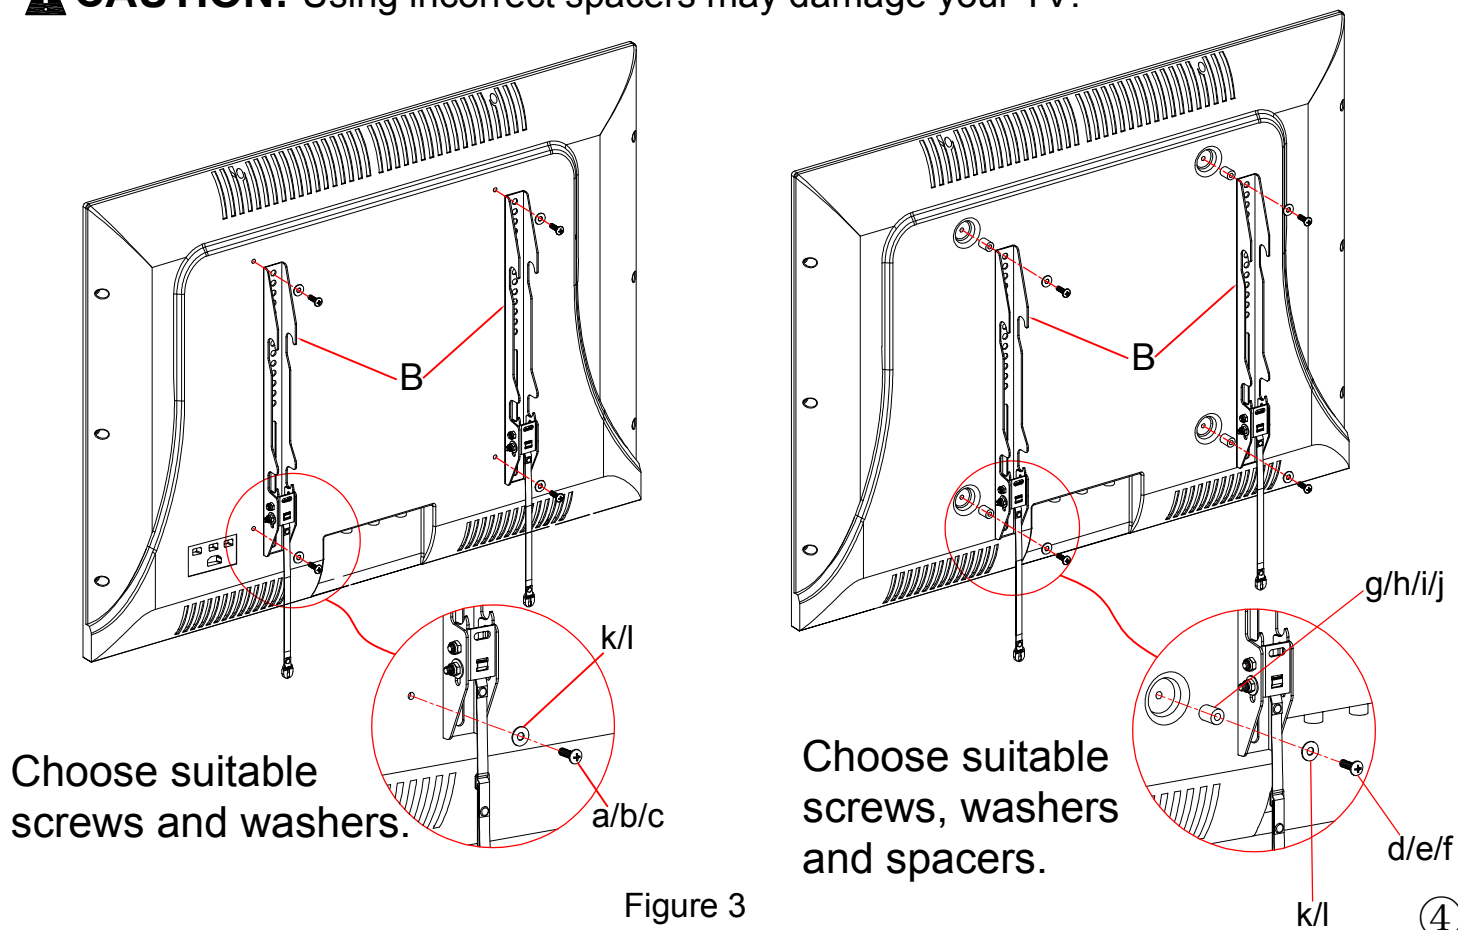

Figure 3
**Step 2:** Attach bracket (B) to the back of TV, choose corresponding screw, washer, spacers to fix the holes of TV rear. (Figure 3)